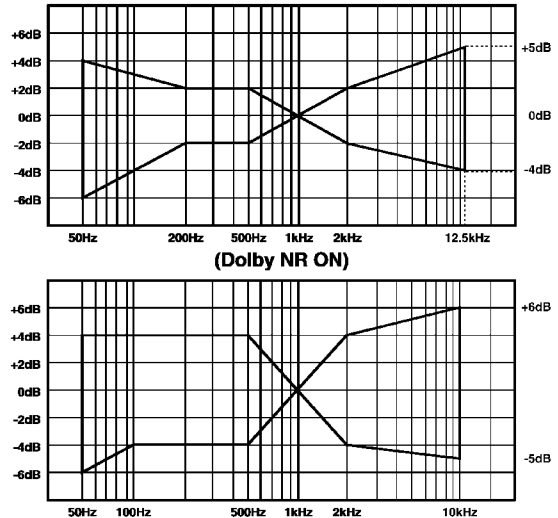

Fig. 13-10.
5. Playback the recorded signal to confirm that the output is within the range of the overall frequency response shown in Fig. 13-10.